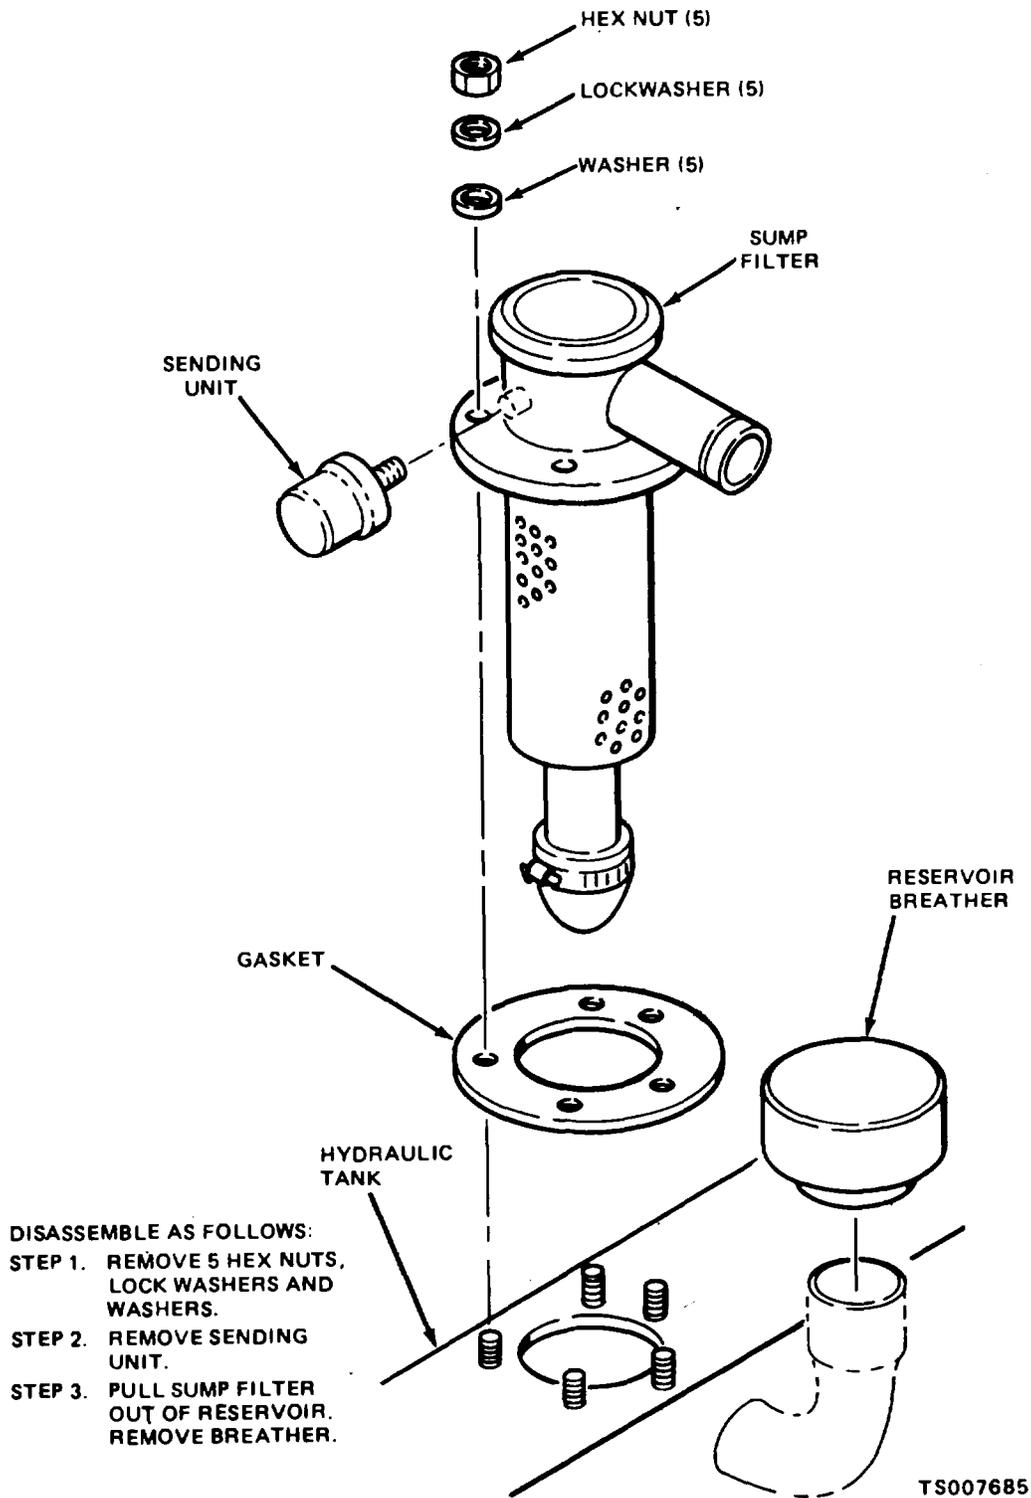

Figure 4-12. Hydraulic Oil Filter, Disassembly and Reassembly
- (1) Disconnect the hydraulic hose from the hydraulic oil filter.
- (2) Disassemble the hydraulic oil filter from the tank as shown in figure 4-12.
(1) Discard and replace the filter element and gaskets.
(2) Clean metal filter components with dry cleaning solvent P-D-680; dry with clean, dry compressed air. Clean the interior of the hydraulic tank with a clean cloth. Rinse with 2 quarts of hydraulic oil.
(3) Inspect the filter case for cracks, distortion, damaged mounting flange, and other damage; replace if damaged.
(4) Inspect the cover for cracks, scored or damaged outlet connection, studs that are loose or have damaged threads, or a damaged mounting flange.
d. Reassembly. Reassemble the filter as shown in figure 4-12.
a. Removal. Remove the hydraulic reservoir breather (fig. 4-12) by unscrewing it from the hydraulic reservoir filler pipe.
c. Installation. Install as shown in figure 4-12.